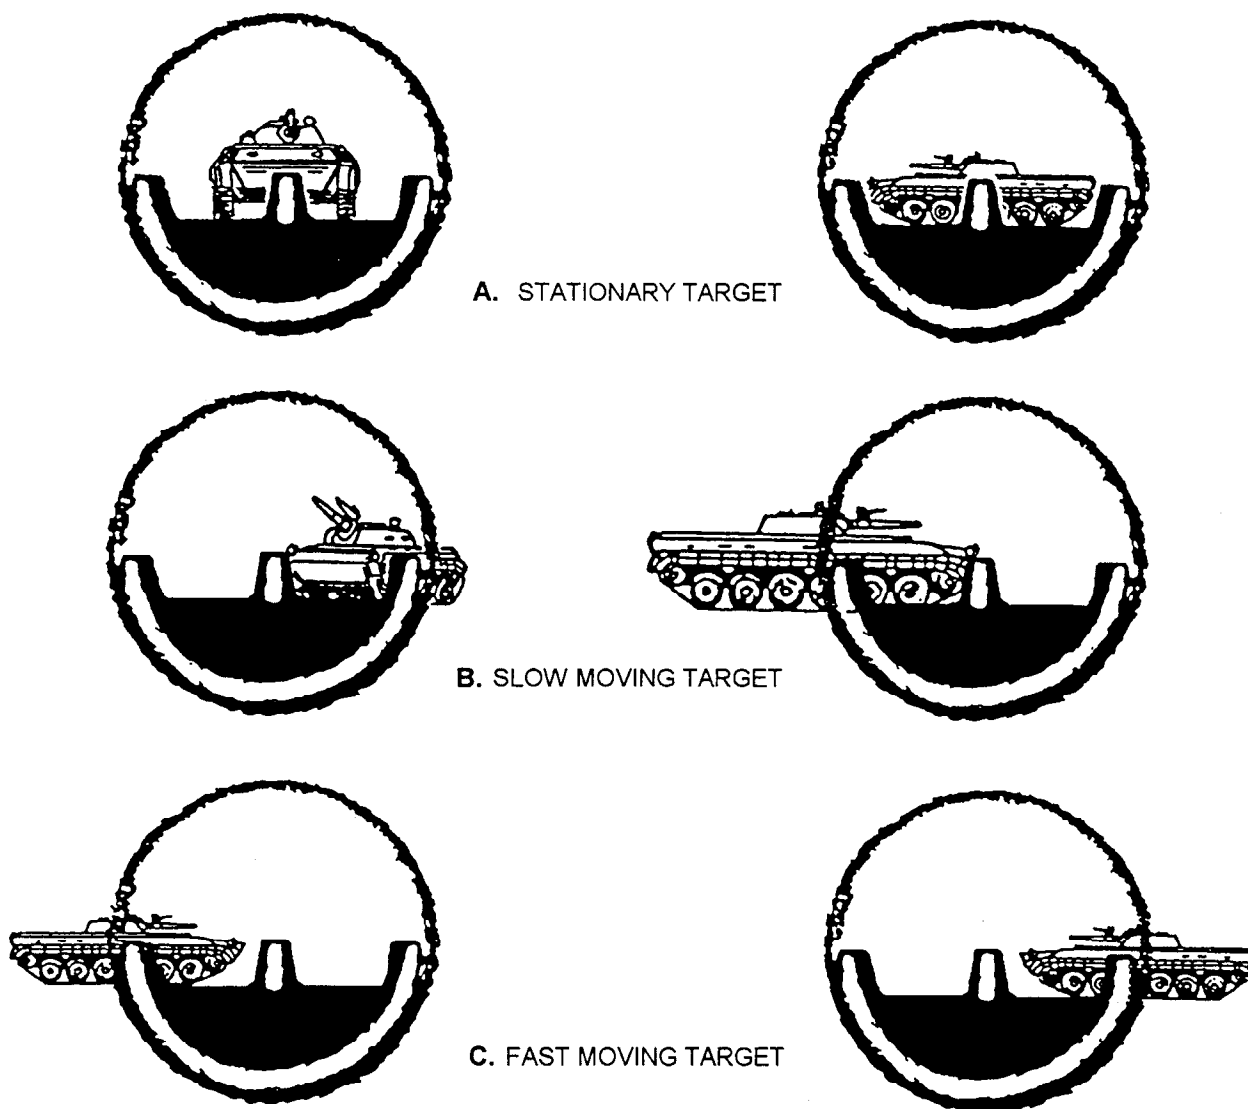

Figure 14-36.—Correct placement of the front sight lead posts.
1. To engage a stationary target. Place the center post at the center mass of the target. Targets moving directly toward or away from the firer are the same as stationary targets (fig. 14-36, view A).
2. To engage a slow moving target. Place the center post on the front leading edge of the vehicle (less than 10 miles per hour). This includes oblique moving targets (fig. 14-36, view B).
3. To engage a fast moving target (more than 10 miles per hour). When the target is moving to the left, place the right lead post at the center of the mass. When the target is moving to the right, place the left lead post at the center of the mass (fig. 14-36, view C).